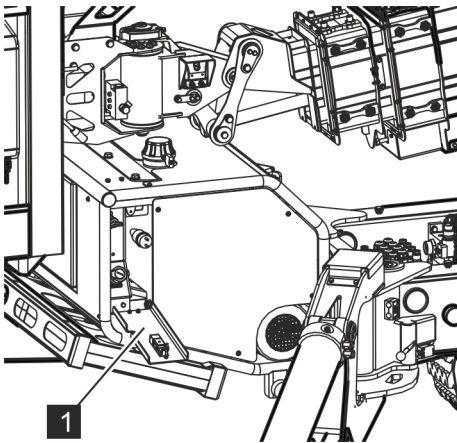

Fig. 41: Cover
1. → Open the cover (Fig. 41/1).